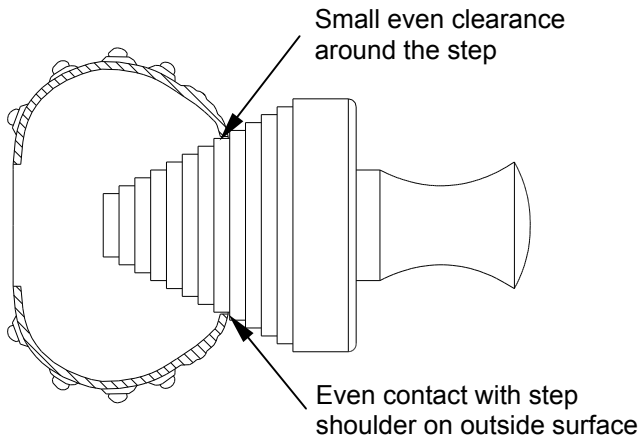

Figure 3: Use of the Step Plug Gauge
- Using a power rotary tool with a 1/2" diameter sanding drum (such as a Dremel®), carefully round the opening until one of the steps fits with a small even clearance. See Figure 3.
- Once the desired fit in the opening has been achieved, it may be necessary to smooth out any outer surface irregularities so that the turned inserts will make even contact all the way around. Use the step shoulder as a guide in this process. See Figure 3.